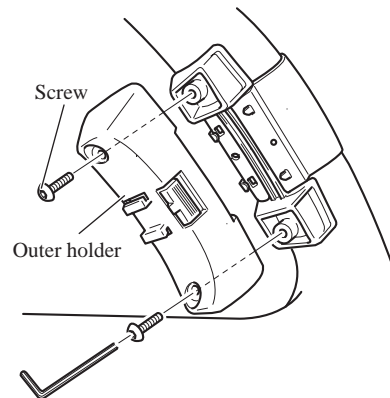

Fig. 15
3. Install outer holder on the inner holder and secure with screws. (Fig. 15)